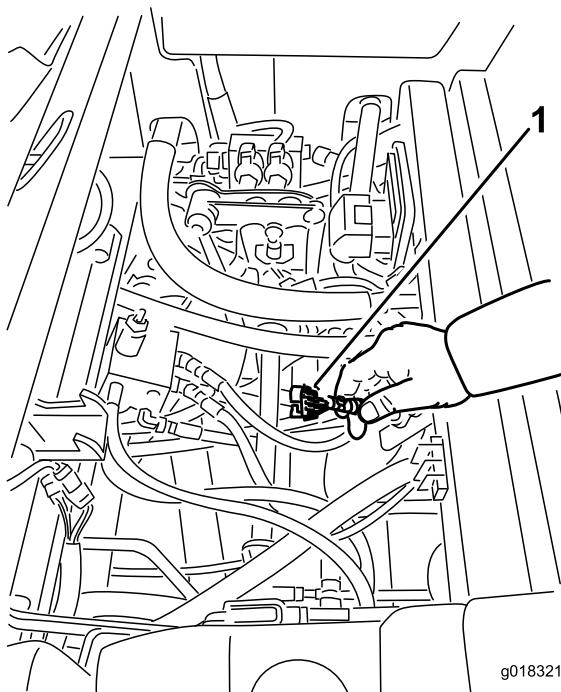

Figure 18
3. Locate the wire harness and connectors near the controller (Figure 18).